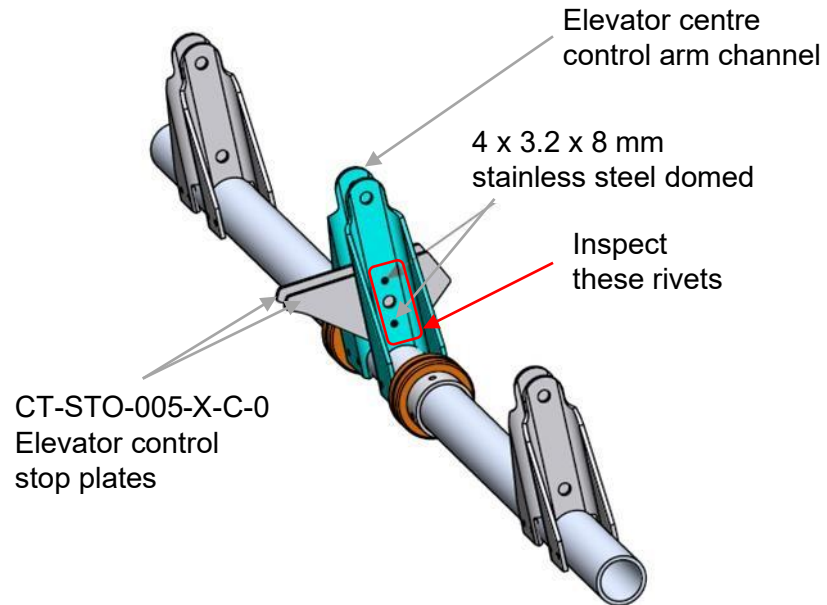

Figure 1 - Elevator control torque tube for Sling 4 and Sling 4 TSi aircraft
1. The rivets on the torque tube that need to be inspected are shown in Figure 1. The control stop plates (CT-STO-005-X-C-0) and elevator centre control arm channels are also shown in Figure 1.